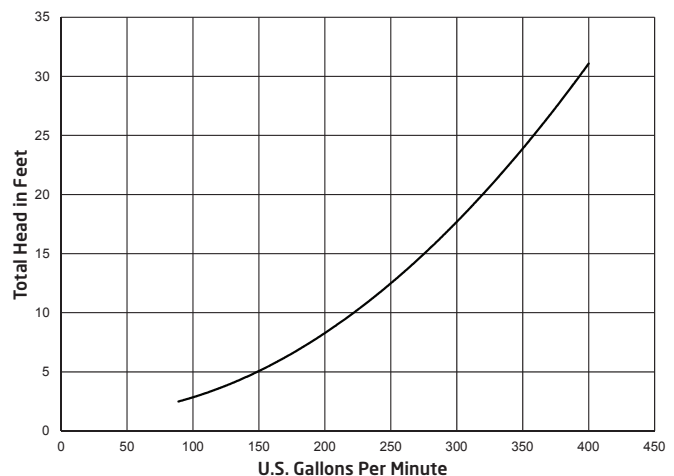

Figure 2
- For optimal performance, use 4" plumbing when the total distance between the pump and jet housing is 30 ft or less. The plumbing should be as direct and free from turns or bends as possible because **elbows and other fittings can create large friction losses and reduce the performance of the system. The shortest length of pipe with the minimum number of fittings possible should be used to avoid any significant friction loss due to the pipe and fittings.** **NOTE:** Refer to Figure 2 for the BaduJet super-sport head loss curve.
- A maximum of seven (7) 90° 4" elbows may be used with 30 ft of horizontal 4" pipe for the suction line and 30 ft of horizontal 4" pipe for the discharge line without negatively affecting the performance of the system.
- If more elbows are required for the installation, 4" sweeps must be used in place of the elbows. When using sweeps instead of elbows, a maximum of nine (9) 4" sweeps may be used with 30 ft of horizontal 4" pipe for the suction line and 30 ft of horizontal 4" pipe for the discharge line without negatively affecting the performance of the system.